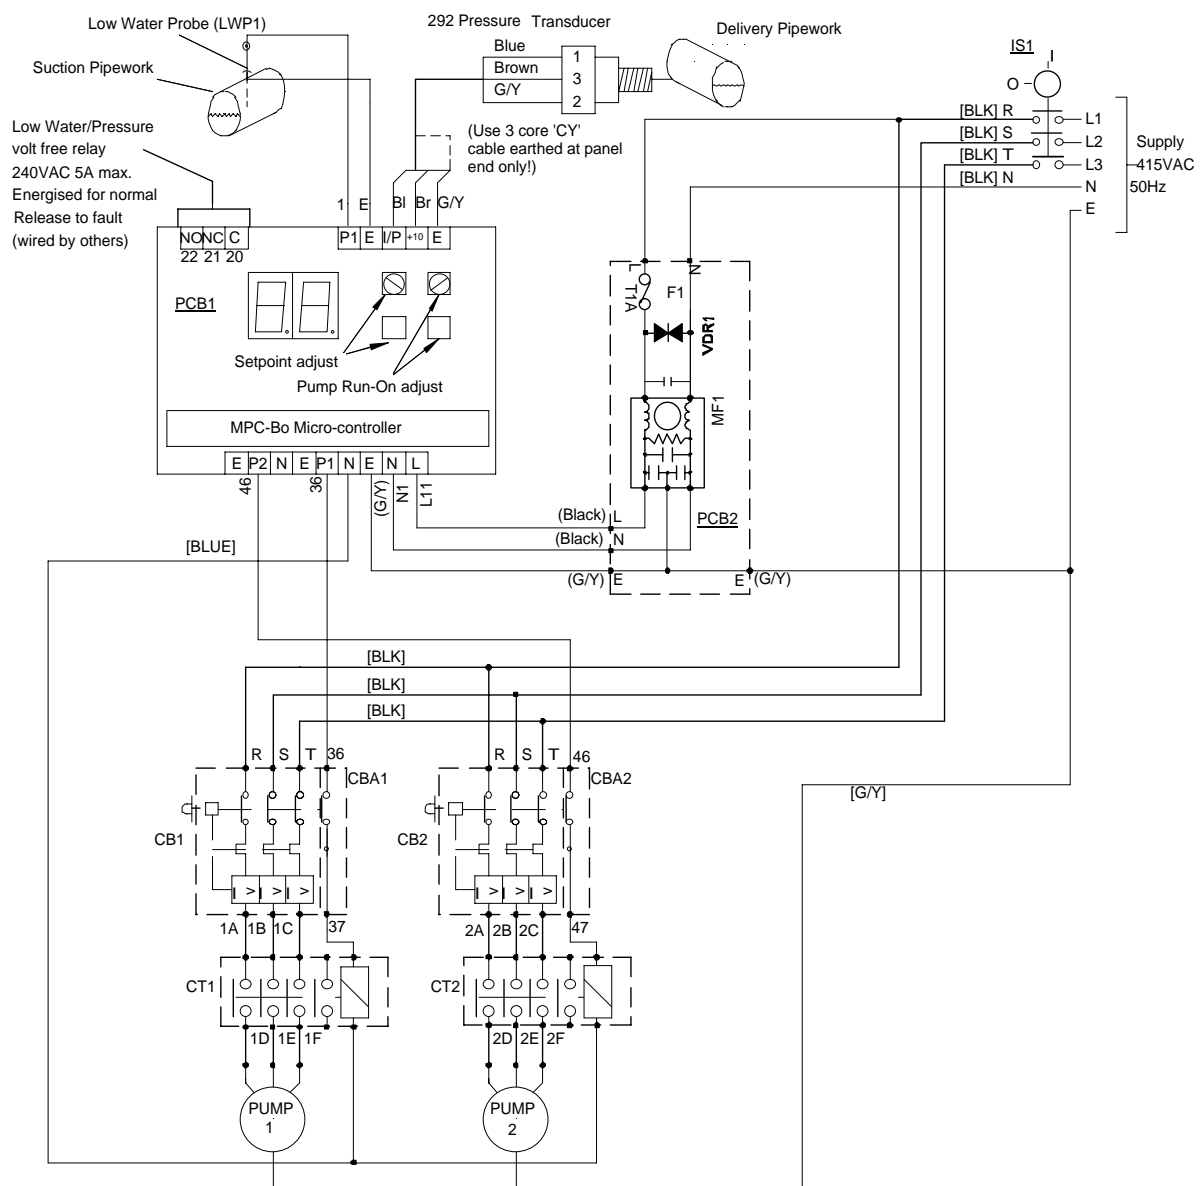

Fig. 1.3 Typical example of electrical connections
1.3.6.3 Connect incoming electrical mains supply to identified terminals on isolator IS1 in panel (see fig. 1.3). Ensure voltages and frequency indicated on the motor nameplates and wiring diagrams correspond with supply mains data and that the supply fuse ratings are correct for the total current rating of the equipment. Note: some units may require Neutral supply for special applications. Refer to wiring diagram supplied with the unit or contact AquaTech-Pressmain.
1.3.6.4 Where optional remote fault signal is required connect volt free terminals in control panel to remote panel. See fig 1.3 and wiring diagram provided.
- Volt free single pole changeover contact in control panel (see fig 1.3) :